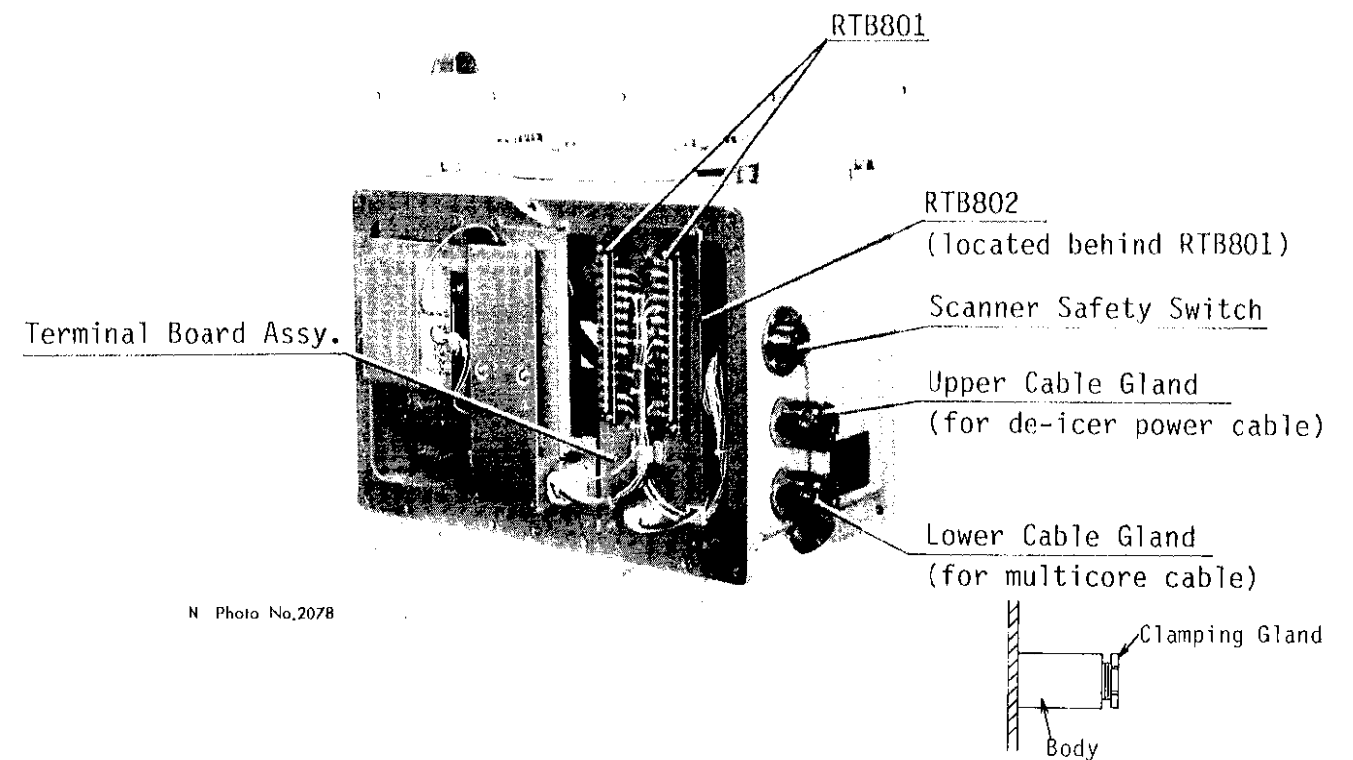

Fig.9
- (1) Open the scanner housing cover of the port side by loosening six fixing bolts.
- (2) Remove the terminal board assembly from the chassis by loosening four fixing screws in order to facilitate the wirings. See Fig.9.
1. Loosen the clamping gland of the upper cable gland and remove the rubber packing and flat washers from the body. See Fig.9.
NOTE: The conductors should be connected to RTB802 located behind RTB801 (Fig.9).
- (4) Loosen the clamping gland of the lower cable gland (Fig.9) and take the rubber packing and flat washers out of the body.
- (8) Cut each lead wire to the proper length, taking into consideration the distance to their respective terminals on RTB801 (Fig.9).
- (9) Peel off the vinyl sheath of the coaxial cable (2C-2V) for approx. 75mm and take out the inner core. Then remove approx. 24mm of insulator from the end of the inner core and fold back the conductor as below, then put crimp-on lug on the conductor. Cut the shield leaving approx. 45mm and put a crimp-on lug on the shield. Put the cloth tape over the shield and core. Be careful not to nick the inner conductor when stripping off the insulation, since it is fragile.